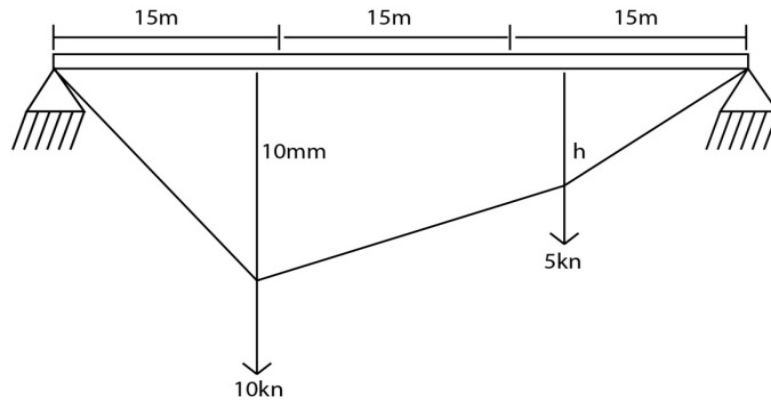

Figure 1
- (b) Figure 1 illustrates a cable structure carrying two loads. Assume that the deformed structure has the maximum depth as shown under the first load. The deformed structure has another critical depth under the second load. The latter depth is not precisely known beforehand, but it must be a value that is directly dependent on the maximum depth of the other point which is given. Analyse the structure (10mks)